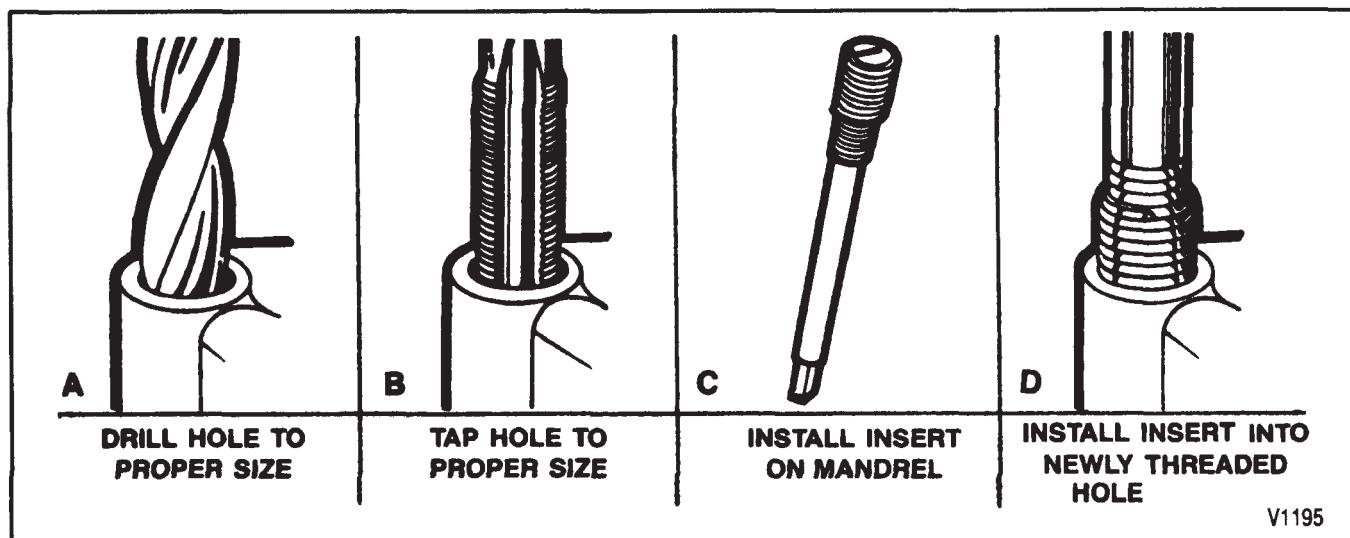

Figure 55—Repairing Thread Holes
4. Thread the thread insert onto the mandrel of the installer (figure 55). Engage the tang of the insert onto the end of the mandrel.